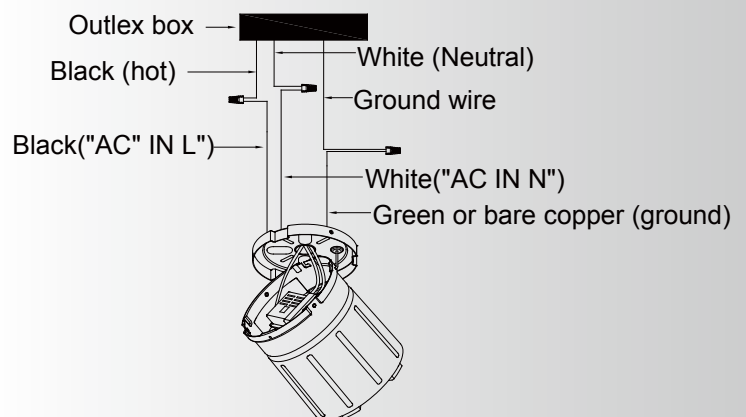

Fig. 11
Step 1. Motor to Receiver Electrical Connections: Connect the BLACK wire from the fan to BLACK wire marked "TO MOTOT L" from the receiver. Connect the WHITE wire from the fan to the WHITE wire marked "TO MOTOR N" from the receiver. Connect the BLUE wire from the fan to the BLUE wire marked "FOR LIGHT" from the receiver. Secure all the wire connections with the plastic wire nuts provided. (Fig. 11)
Step 2. Remote Receiver to Outlet Box Electrical Connections: Connect the BLACK (hot) wire from the ceiling to the BLACK wire marked "AC in L" from the receiver. Connect the WHITE (neutral) wire from the ceiling to the WHITE wire marked "AC in N" from the Receiver. Secure the wire connections with the plastic wire nuts provided. (Fig. 11)
Step 3. If your outlet box has a ground wire (green or bare copper) connect it to the fan ground wires : otherwise connect the hanging bracket ground wire to the mounting bracket. Secure the wire connection with a plastic nut provided. After connecting the wires, spread them apart so that the green and white wires are on one side of the outlet box and black wire is on the other side. (Fig. 11)